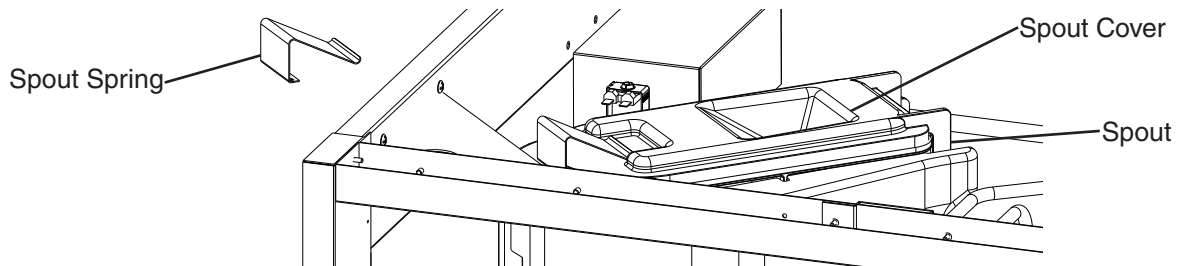

Fig. 20
- 3) Remove the spout insulation and the spout spring from the spout. See Fig. 20.